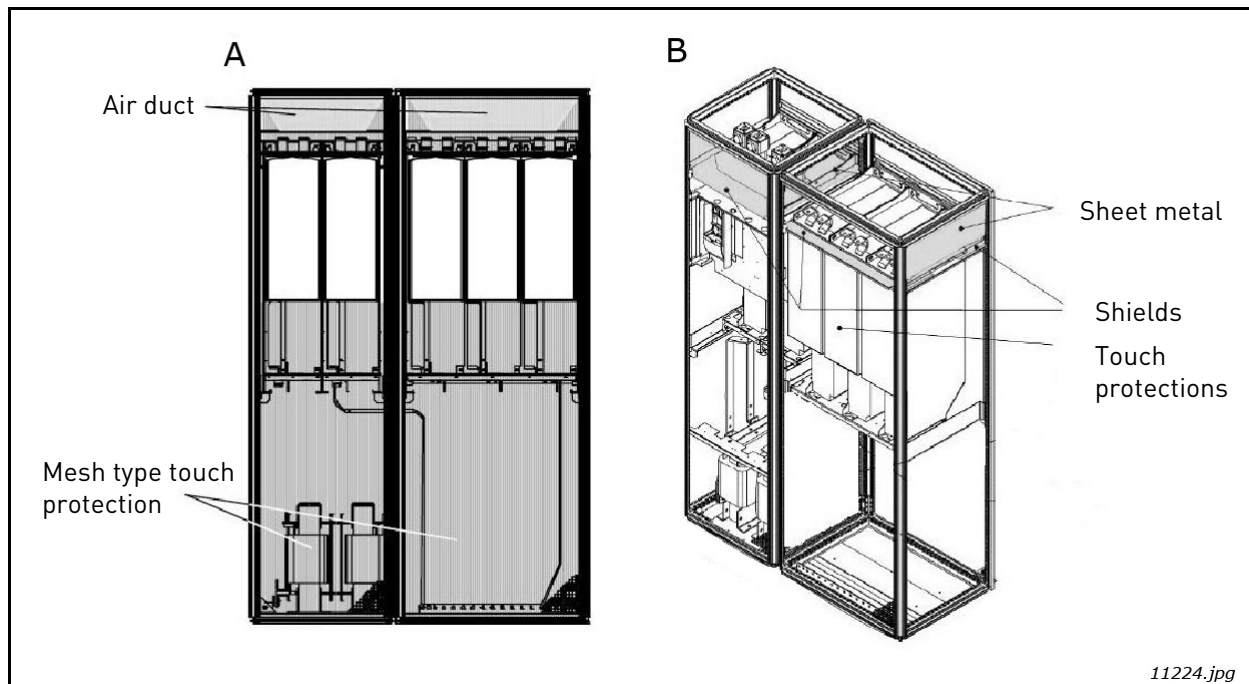

Figure 45. Cabinet cooling airflow guides
- A. Install a closed air duct from the power unit to the outlet on top of the enclosure (A in Figure 45).
- B. Install shields in the gaps between the power unit and the cabinet walls (B in Figure 45). Place the shields above the air outlet gaps at the sides of the module.